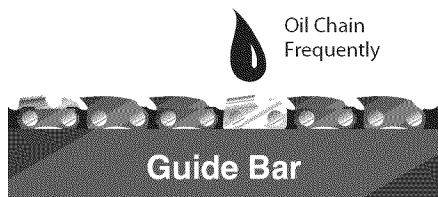

Figure 12 - Applying Oil to Chain
- Apply several drops of oil between chain and guide bar (see Figure 12).